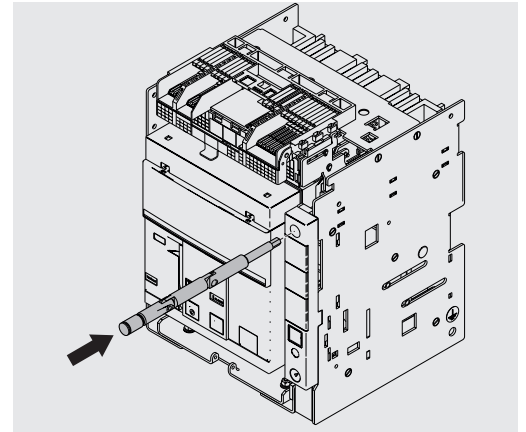

Figure 38
9. Replace the crank in its housing See Figure 38.